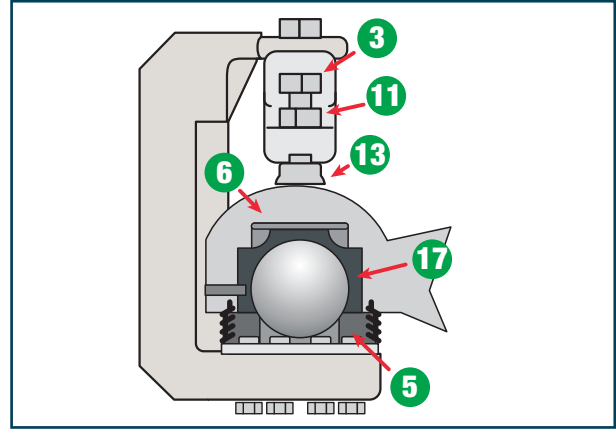

Figure 6.13
Step 5. Adjust the Adjustment Screw (Figure 6.13)
- Adjust the adjustment screw (3) until a 0.3 - 0.5 mm vertical clearance between the guard disk (13) and the ball cup (6) is reached. Lock setting with counter nut (11).